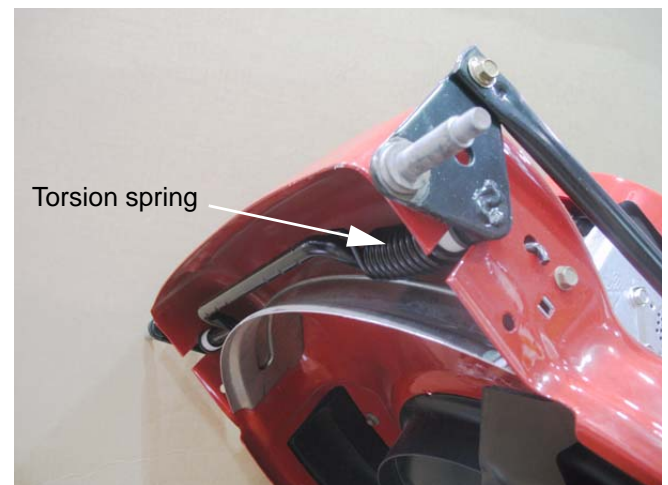

Figure 2.3
2. Set the height adjuster lever to the highest position, relieving the load on the lift-assist torsion spring on the front axle. See Figure 2.3.